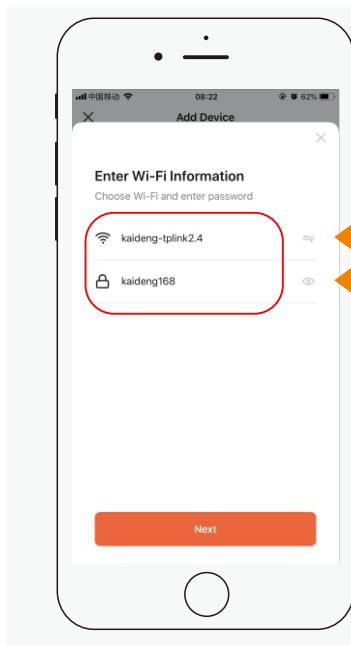

Figure 3
**Step 3.** When Figure 3 appears, please input the Wi-Fi password currently connected to the mobile phone and click Next.